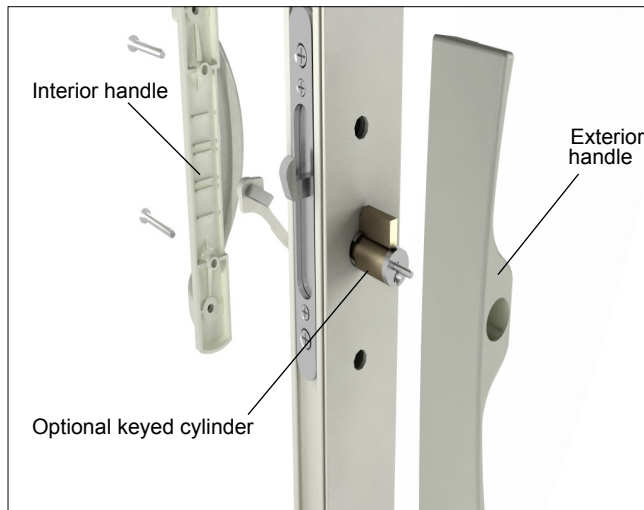

Figure 1 Cambridge handle shown
1. Place exterior handle on the door with the grip pointing toward the jamb. Place the interior handle on the door with the grip pointed toward the glass. Install the machine screws (2" for the Northfield handle or 1 5/8" for the Cambridge handle) through the handle. Before tightening, move exterior handle towards jamb as far as possible. See figure 1.